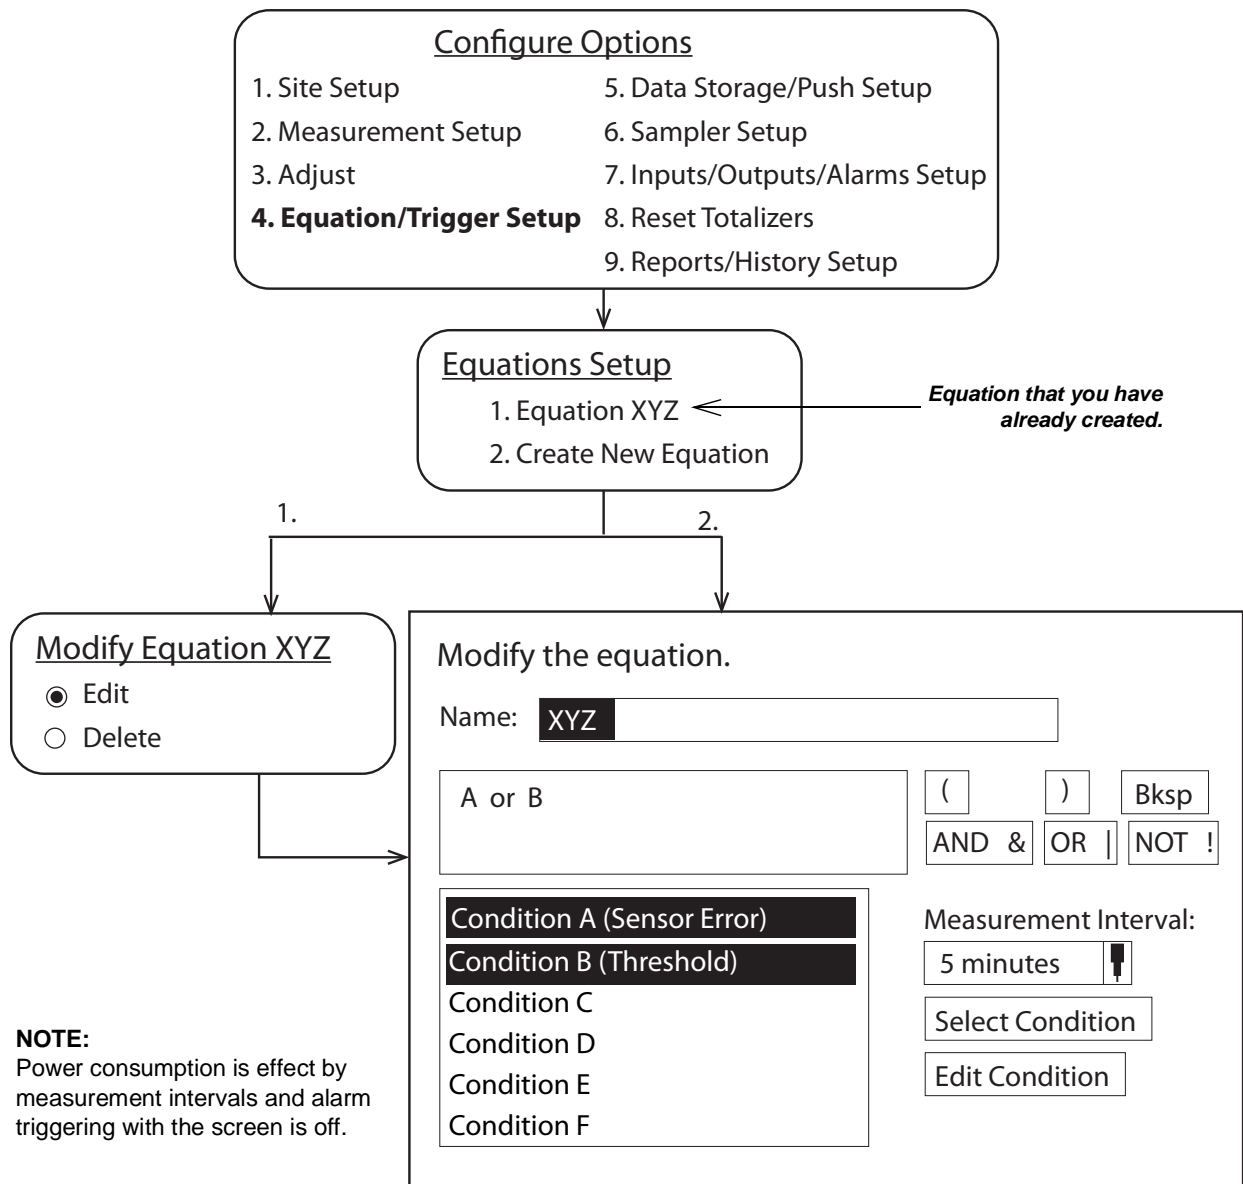

Figure 2-17 Example of defining conditions & building equations.
*Conditions* are sets of site-specific, user-defined parameters. Refer to Figure 2-17 on the following page.